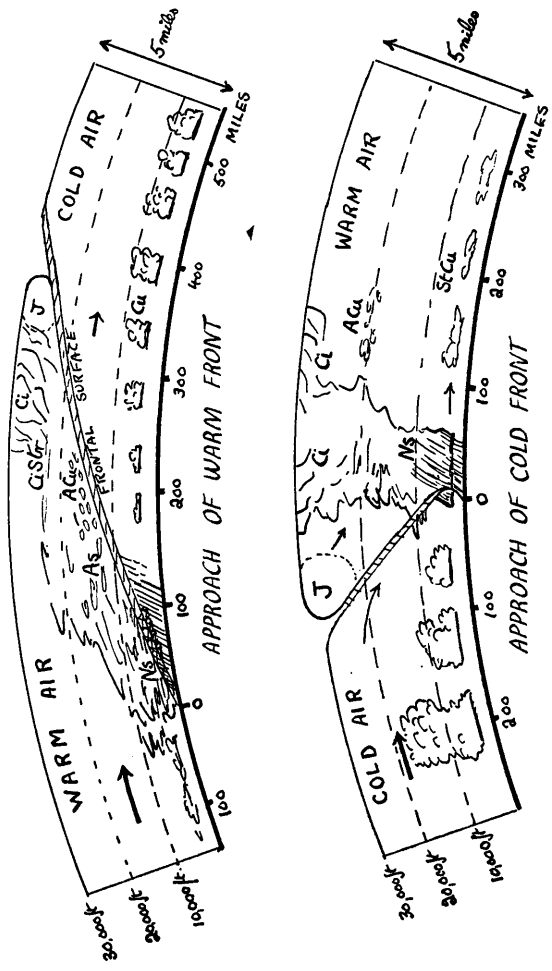

FIG. 10. Warm and cold fronts
The first frontal cirrus clouds are at about 5 miles height, and owing to the curve of the Earth they are not likely to be visible more than about 100 miles away. Your thumb held upright at arm's length covers an angle of about 5 degrees, and cirrus up to the height of your thumb above the horizon is about 60 miles distant. As the slope of the front may be about 1 in 100 (often less steep) the actual warm front at the ground is probably at least 400 miles farther away, with a rain belt one or two hundred miles to come before it arrives. Fig. 10 shows a likely arrangement of the clouds near warm and cold fronts.
Jet streams are narrow areas of strong winds at great heights (30,000 to 40,000 feet). They often blow along the fronts, and the *polar-front jet stream* can usually be traced for considerable distances. I have marked its position (J) in the warm and cold front diagrams (Fig. 10). The direction is out of the paper; its position is sometimes marked by extremely rapid movement of the edge of a line of cirrus cloud.